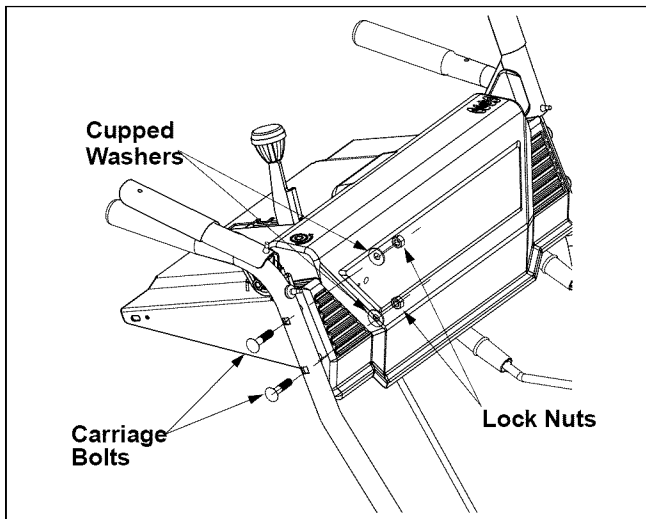

Figure 6
- Place the handle panel in position between the two handles. To hold the handle panel in place, depress both controls against the handles. While continuing to hold the right control, release the left control (the auger control lock will keep left control engaged). See Figure 6.
- Fasten right side of the handle panel by inserting two carriage bolts through handle and handle panel (bolts must go through both the plastic and metal parts of the handle panel). See Figure 6. Secure with cupped washers (cupped side against handle panel) and lock nuts.